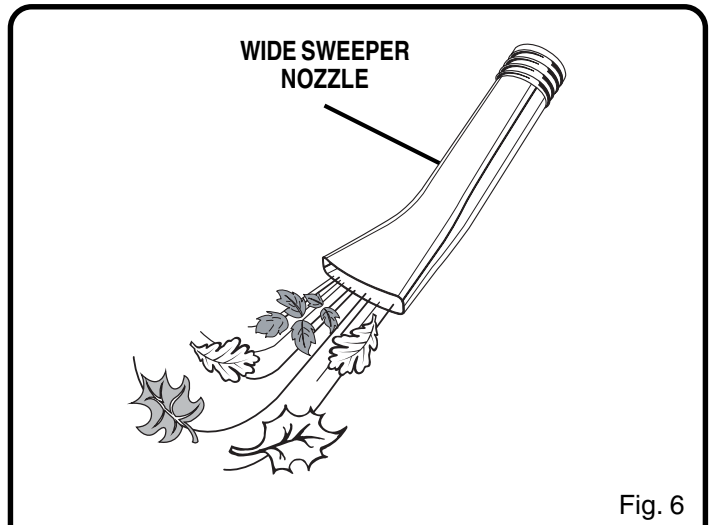

Fig. 6
- The wide sweeper nozzle allows for large areas to be covered during blowing operation. *See Figure 6.*